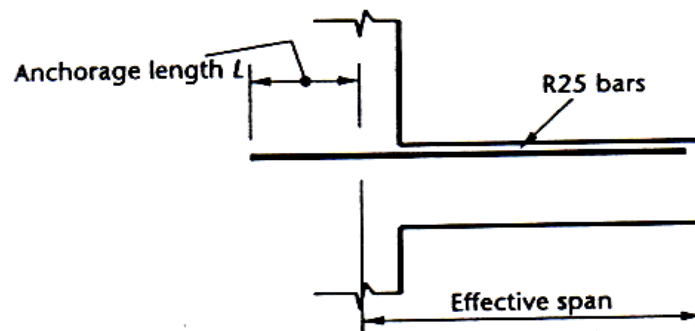

Figure 3.2
- b) Determine the length of tension anchorage required for the 25 mm diameter plain mild steel reinforcing bars in the cantilever beam as shown in Figure 3.2. The characteristic materials strengths are $f_{cu} = 30 \text{ N/mm}^2$ and $f_y = 250 \text{ N/mm}^2$.